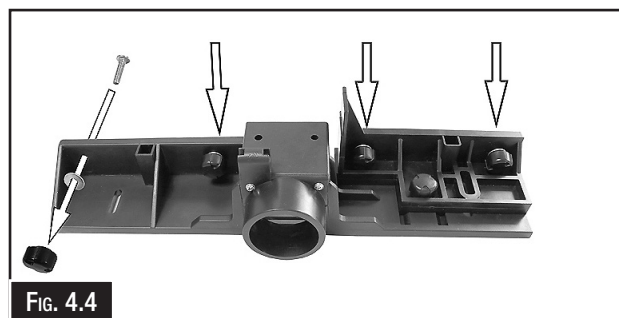

FIG. 4.4
4. Insert the 4 carriage bolts into the attachment holes and screw them on finger tight with a washer and a plastic cap nut. (Fig. 4.4)